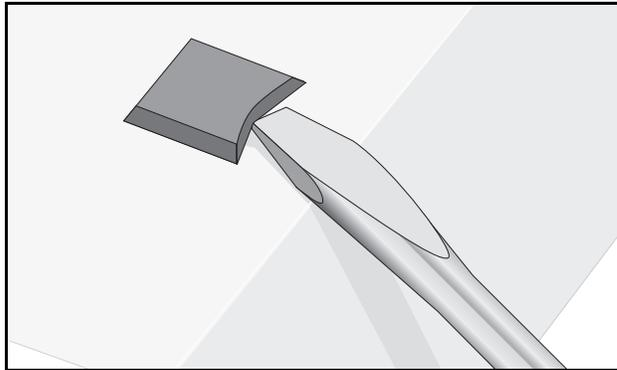

Figure 10. Removing the Rubber Feet from Chassis
2. If attached, remove the rubber feet from the bottom of the chassis with a flat bladed screw driver as shown in Figure 10.